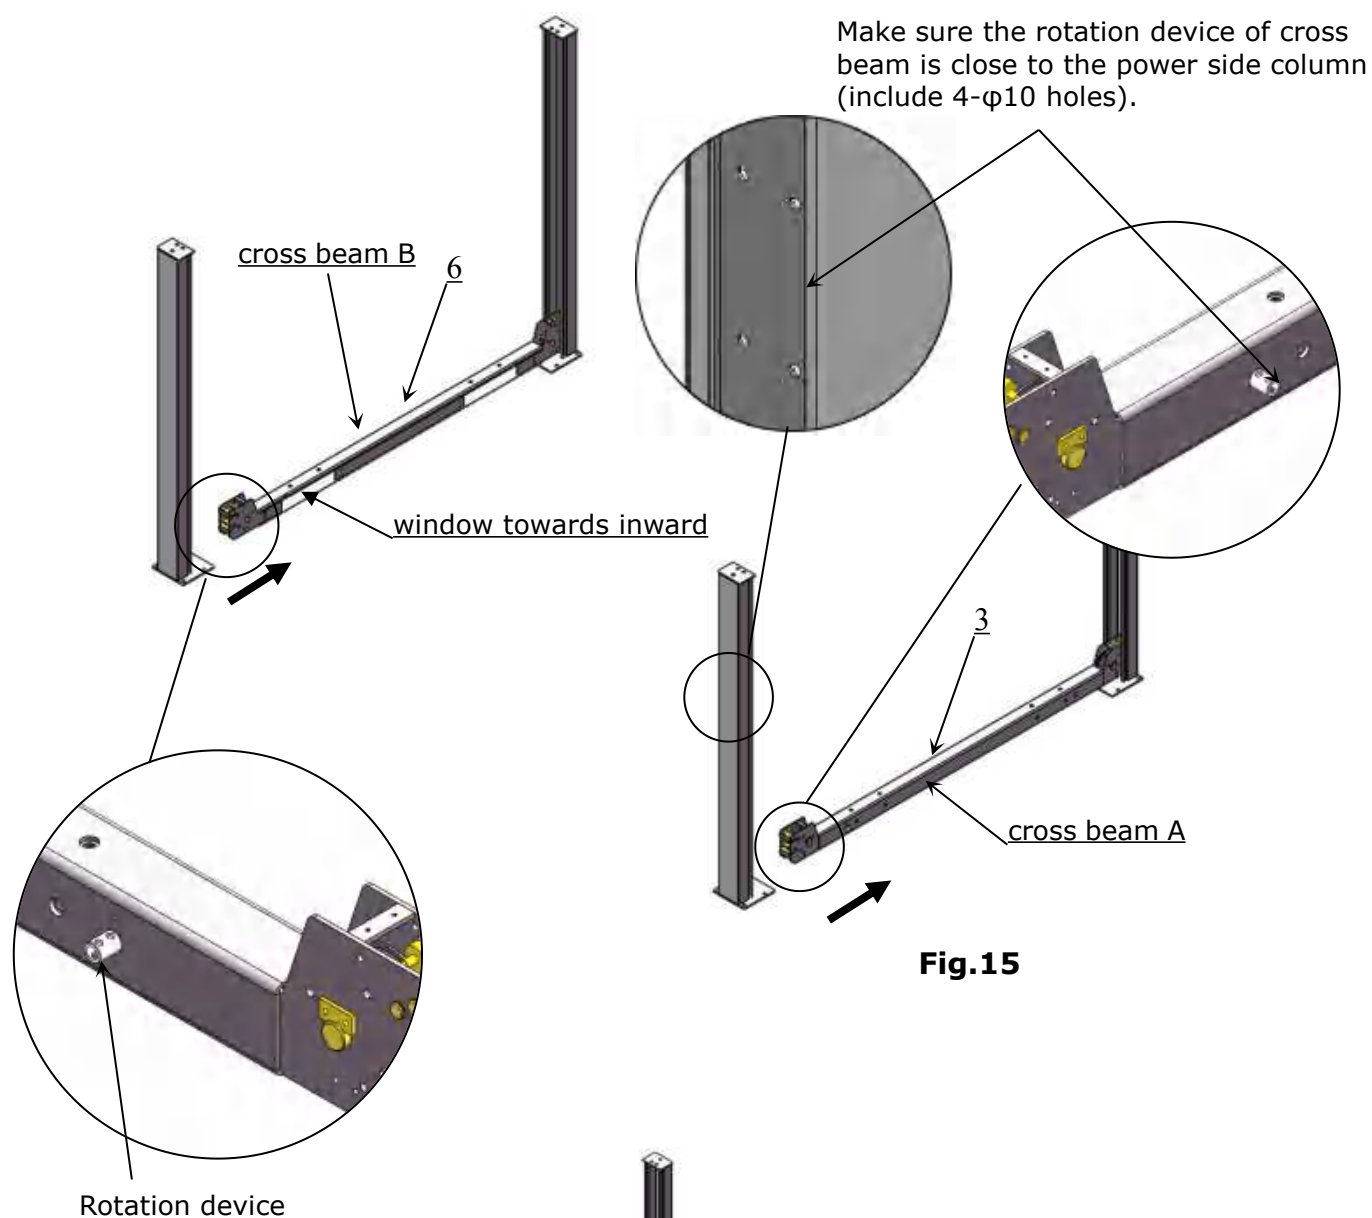

Fig.15
D. Install cross beams (See Fig.15, Fig.16).